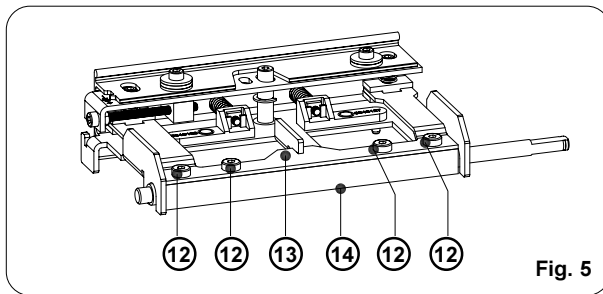

Fig. 5
19. When mounting the shaft (14) (see figure 5) adjust the four-edged section of the shaft exactly to the shape of the plate spring (13).
21. During printhead mounting, make sure that the pins (32) are correctly inserted in the holes of the printhead and the printhead is completely secured in the printhead carriage. Otherwise the printhead carriage may be damaged !